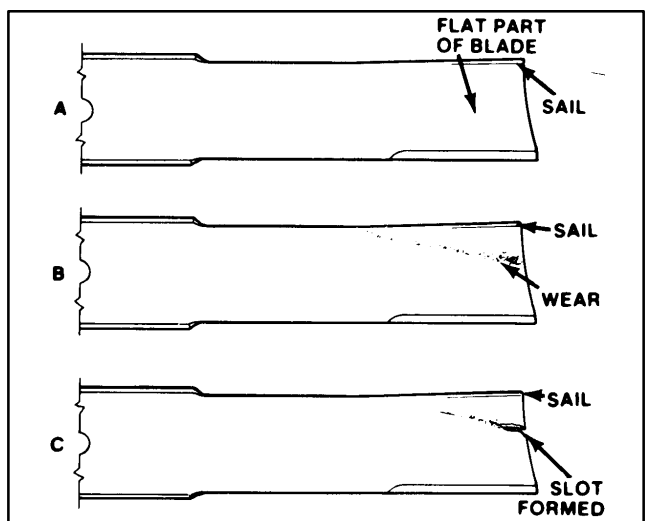

Figure 32
(Fig. 32)
2. Examine cutting ends of the blade carefully, especially where the flat and curved parts of the blade meet (Fig. 32–A). Since sand and abrasive material can wear away the metal that connects the flat and curved parts of the blade, check the blade before using the machine. If wear is noticed (Fig. 32–B), replace the blade: refer to Blade Removal and Installation, page 40.